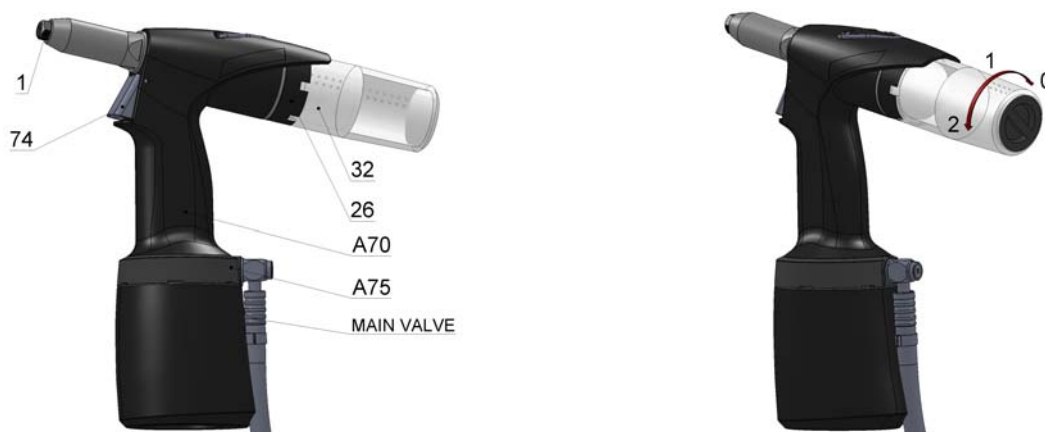

Fig.1
The manufacturer equipped the tool with a nose-piece /fig.1 – pos.1/ for a rivet Ø 6.4 monobolt. Riveting with blind rivets of different diameters (further on referred to as BR) requires use of appropriate nose-pieces /fig.1 – pos.1/ that are located in the accessories casing of the tool.
**Replacement of nose-pieces:** Connect the tool to the source of compressed air, depress the trigger and screw out the nose-piece /fig.1 – pos.1/ with a spanner no. 12. Screw on a new nose-piece /acc. to the chart/ and tighten it. Now you can release the trigger of the tool.
The tool is equipped with revolving air supply /fig.1 – pos.A75/ which enables manipulation with air supply before as well as during tool operation, air hose does not obstruct riveting in any position.
The tool is equipped with multifunction trigger /fig.1 - pos.74/ which enables following:
- Unlock the trigger (shifting the trigger down to the stop) and release it. The suction is switched on and the trigger is in position see fig.1.
The tool is equipped with a multifunctional mandrel container /fig.1 – pos.32/ which has the following positions:
Put and push the mandrel container /fig.1 - pos.32/ into the ring relief /fig.1 – pos.26/ end-to-end, thus you depress the arrestment element, and turn to position 1 or 2. The mandrel container shall thus be in place. The suction shall initiate in position 2. Relative position of the mandrel container with air outlets /fig.1 - pos. 32/ and the ring relief /fig.1 – pos.26/ ensures that the outlet air pressure goes out in a suitable direction (e.g. offward the operator of the tool).
Turn the mandrel container /fig.1 - pos.32/ end-to-end to position 0 and pull it out of the ring relief /fig.1 – pos.26/. The suction shall thus switch off.
Suction switches off by turning and removing the mandrel container /fig.1 - pos.32/. Insert BR into the riveting tool through the nose-piece hole. Depress the trigger to move the jaws offward the BR head. The movement ends when reaching max. stroke, correct BR with respect for material gauge shall tear off the shank (riveting) for one stroke of the tool. Releasing the trigger shall return the jaws to initial position and released torn-off shank can be removed from the nose-piece by tilting the tool. /fig.1 - pos.1/.
Mounting and turning the mandrel container /fig.1 - pos.32/ to position 1 shall arrest it. Insert BR into the riveting tool through the nose-piece hole. Depress the trigger to move the jaws offward the BR head. The movement ends when reaching max. stroke, correct BR with respect for material gauge shall tear off the shank (riveting) for one stroke of the tool. Releasing the trigger shall return the jaws to initial position and the released torn-off shank can be transported into the mandrel container by tilting the tool.
Suction switches on by turning the mandrel container /fig.1 - pos.32/ to position 2. In this position the suction holds BR in the nose-piece /fig.1 - pos.1/ which enables riveting in any position without danger of BR falling out of the nose-piece of the tool. Depressing the trigger shall perform riveting. Releasing the trigger shall transport the shank into the mandrel container. If the mandrel container is full with shank to appx. 70%, it is necessary to remove and empty it in a specified manner (e.g. to a prepared container). Overfill of the mandrel container may result in failure of the riveting tool.